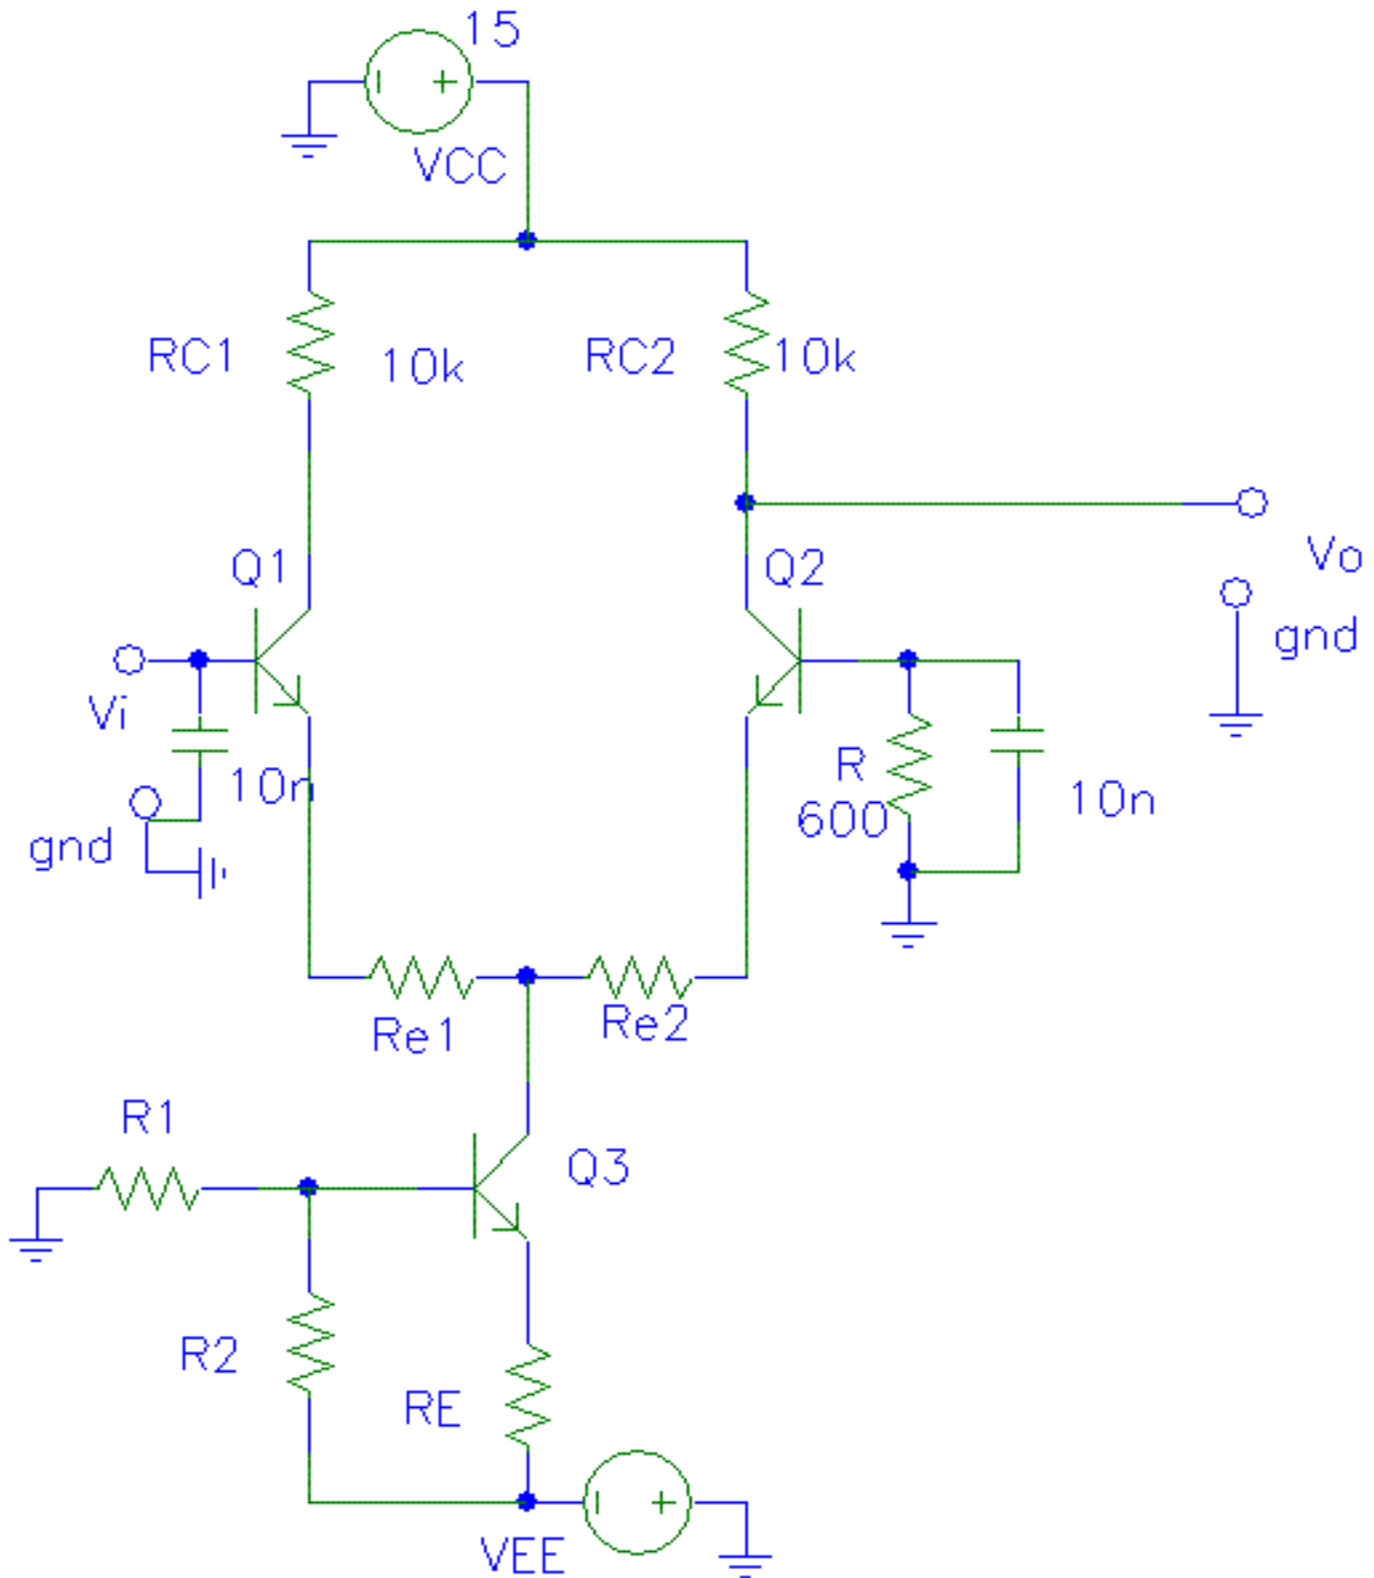

Figure 3
2. Show that the difference mode voltage gain of figure 3 with  $R_e = 0$  is
- Circuit Configuration: Figure 3 with  $R_e = 0$